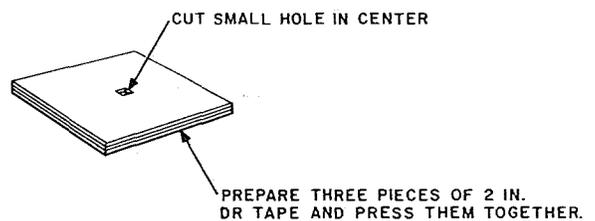

Fig. 9—Insulating Pad
(1) Remove the outer polyethylene jacket and underlying metallic shields. Then with a cable drill make a hole in the center of the exposed inner polyethylene layer to expose the core wrap. Open the core wrap slightly.
(2) Prepare an insulating pad of three layers of 2-inch DR tape. Cut each piece slightly longer than the rectangular opening in the outer polyethylene and press the three pieces into a pad. In the center of the pad, cut a hole approximately 1/4 inch with the splicer's scissors (Fig. 9).